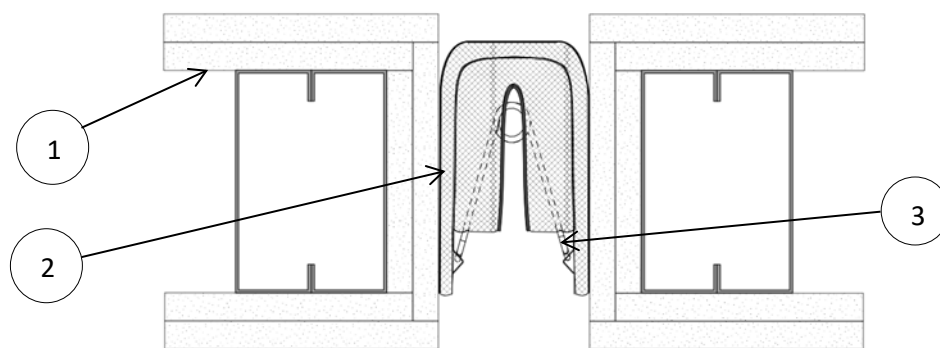

Figure 1.
- 1. SUPPORTING CONSTRUCTION:** 2 hour rated gypsum wall assembly made from two layers of 5/8 in. thick gypsum board, fastened to minimum 25 GA steel studs or minimum 2x4 wood studs in accordance with the corresponding listed design. Install steel box studs or wood double studs on both sides of the joint. Gypsum board must be present in the throat of the joint as shown in Figure 1.